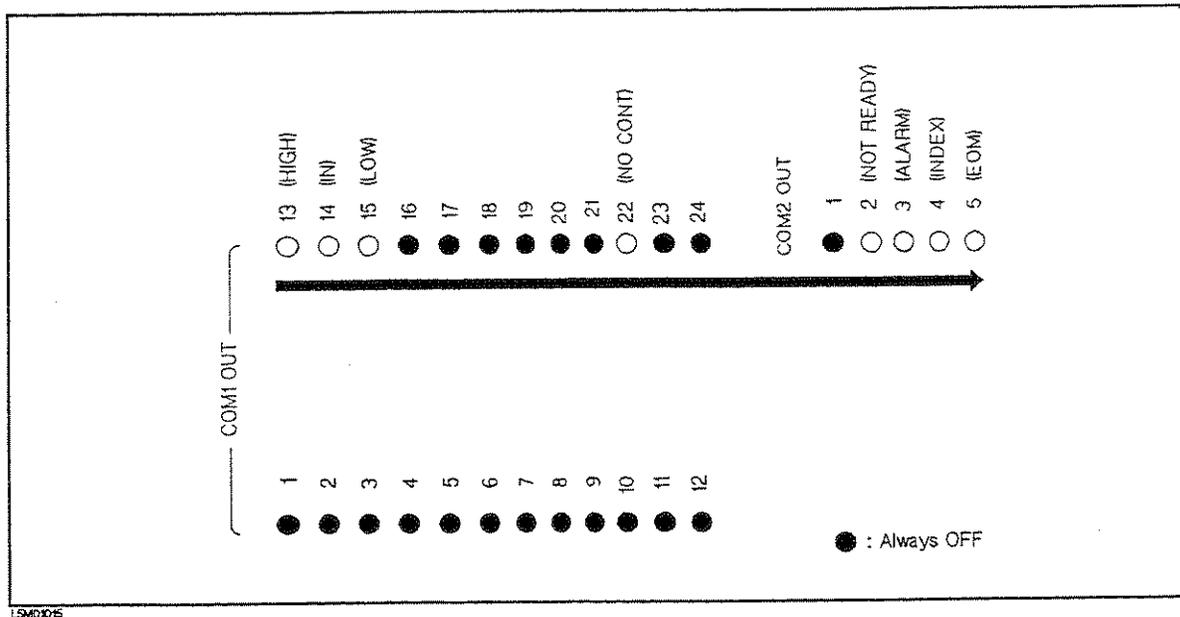

Figure 9-12. Handler Interface Output Order
14. Confirm that the LEDs on the Handler Interface Tester light in the order shown in Figure 9-12, in accordance with the HP 4339A display.